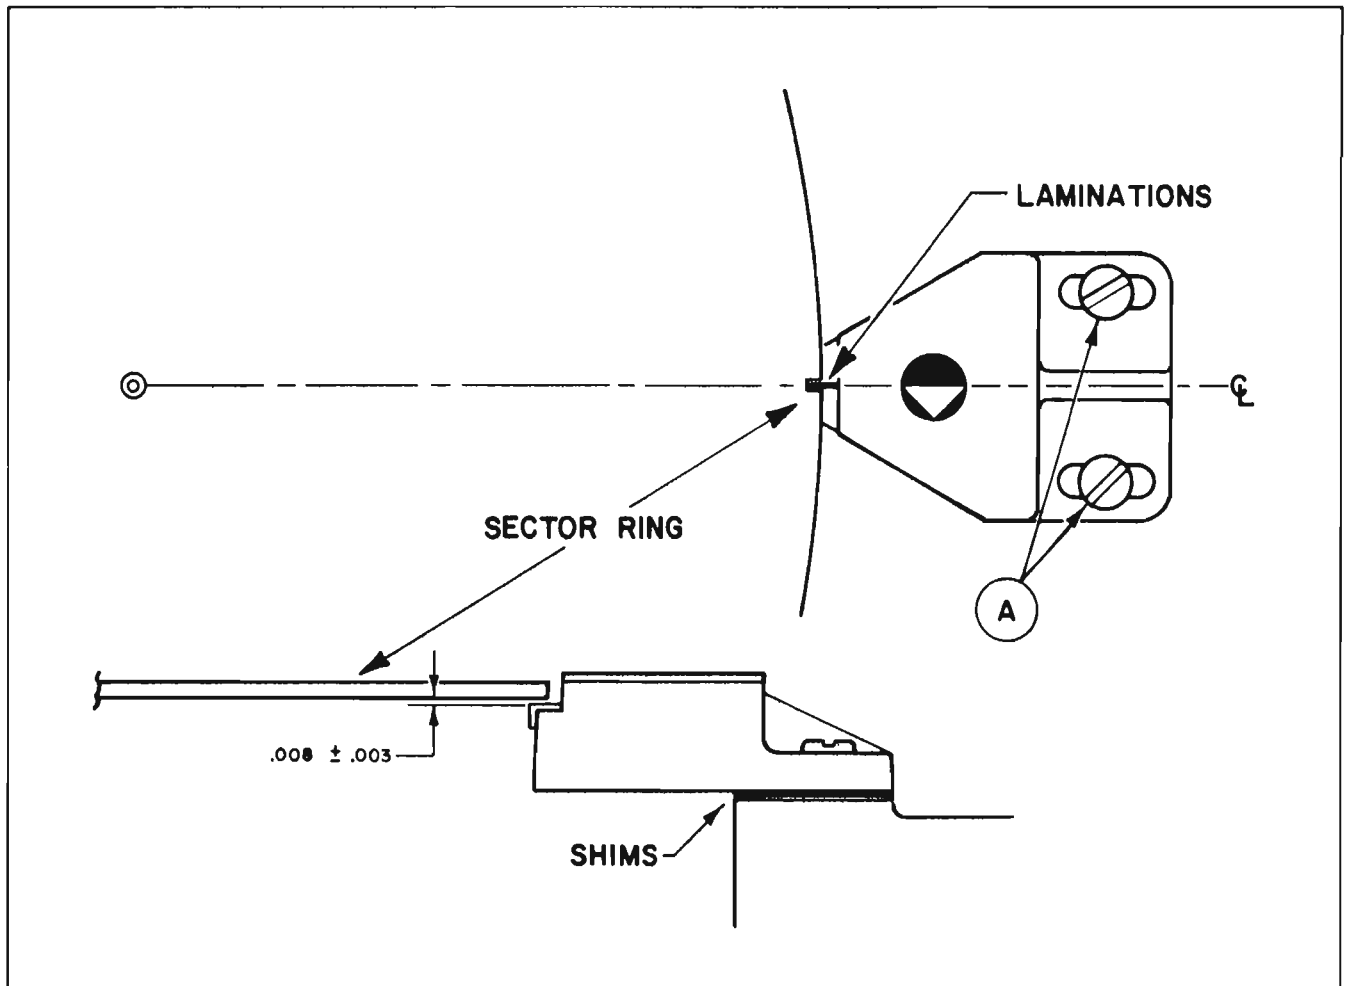

FIGURE 18 INDEX TRANSDUCER ADJUSTMENT
2. Verify the transducer lamination-to-sector ring clearance of  $.008'' \pm .003''$  by laying a straight-edge across the spindle hub and checking the gap between its lower edge and the top of the lamination with a plastic feeler gauge. If the clearance is out of tolerance, loosen the hold-down screws (screws A in Figure 18), and add or remove shims (Diablo P/N 16358) as required. Retighten the screws just enough to secure the transducer and still allow slight lateral movement.